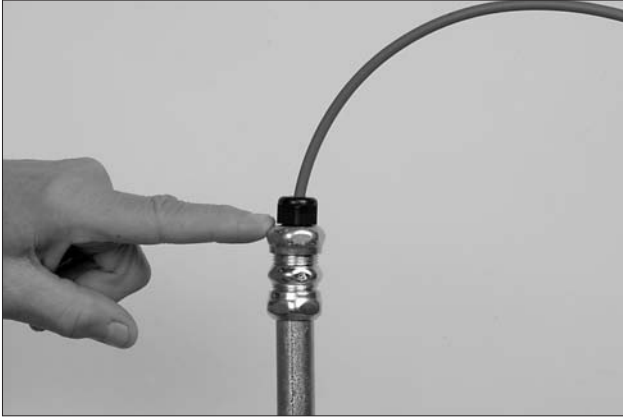

Figure 4-66.
11. Tighten nut on strain relief on top of conduit riser. See **Figure 4-66**.